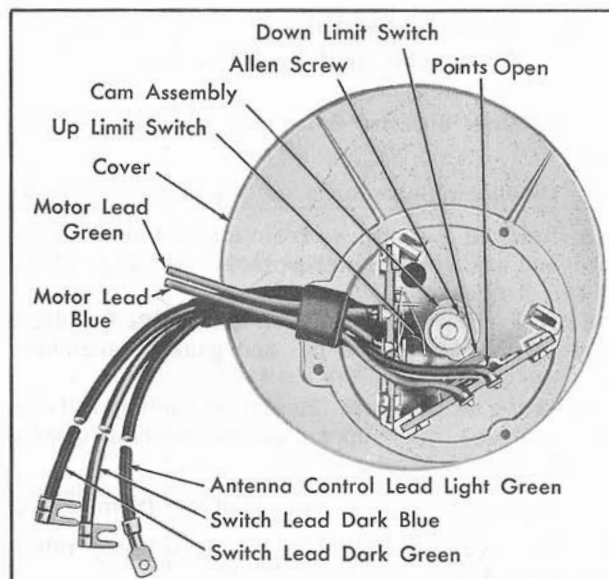

Fig. 15-2 Antenna Switch Assembly
13. Loosen Allen set screw in cam collar, and remove collar and nylon cam assembly, being careful not to disturb switch contacts. Refer to Fig. 15-2.
16. Install nylon cam assembly. Rotate cam assembly clockwise until outer cam opens contacts on "down" limit switch. See Fig. 15-2. Hold cam in this position and tighten Allen set screw.